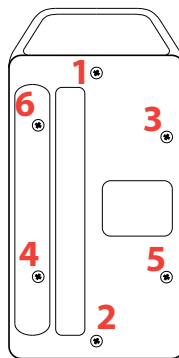

Figure 2-2 Screw tightening sequence
- b. Tighten the screws in the sequence shown in Figure 2-2. This will ensure that the gaskets are tightened properly to maintain a watertight seal.